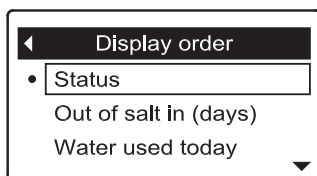

FIG. 116
4. Press the SELECT (○) button to display the Display order screen (See Figure 116).